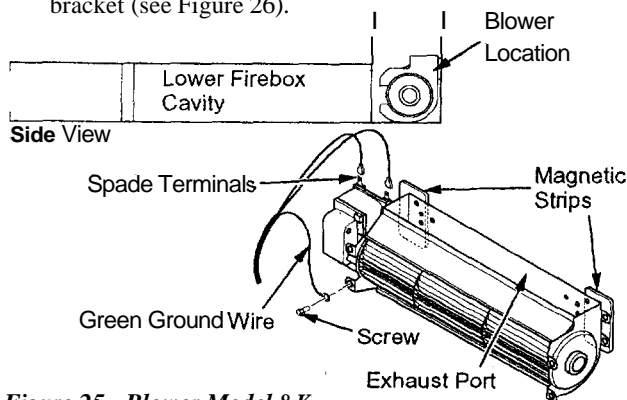

Figure 25 - Blower Model 8 K
1. Attach the power cord to the blower motor by firmly pushing the two female terminals at the end of the power cord onto the two spade terminals on the blower motor (see Figure 25).
2. Attach green ground wire from power cord to blower housing using screw provided (see Figure 25). Tighten screws securely.
3. Place the blower against the lower rear wall of the firebox outer wrapper with the exhaust port directed upward. The blower will fit inside the back opening and be held in position against the back wall by the magnets (see Figure 25).